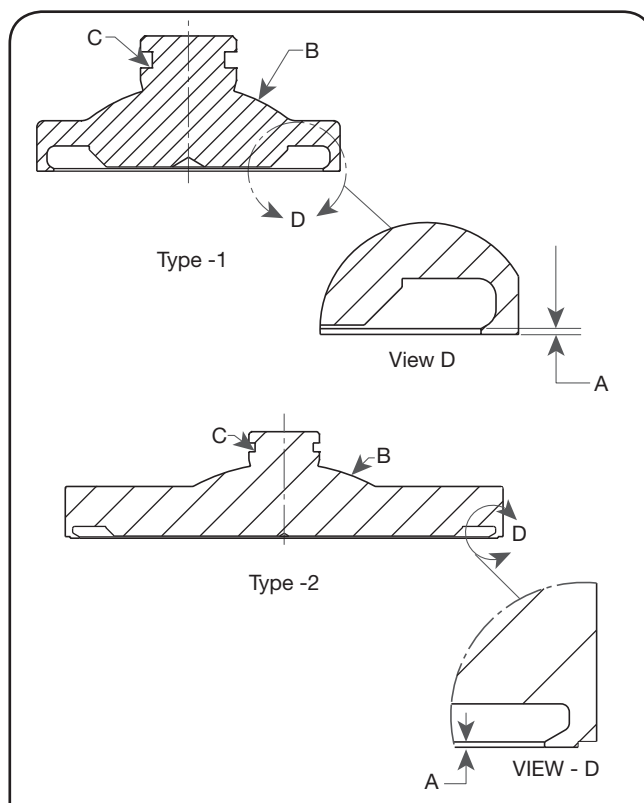

Figure 19: Thermodisc Design
8. Thermodisc Metal Seated Disc: This disc (Figure 19) cannot be machined. It can be lapped as long as the A min. dimension has been maintained. If lapping does not fix damaged area, part must be discarded.
- a. Seat defects and damage cannot be lapped out without reducing the "A" dimension in Figure 19 and listed in Table 6. If the dimension cannot be measured, replace the Thermodisc.